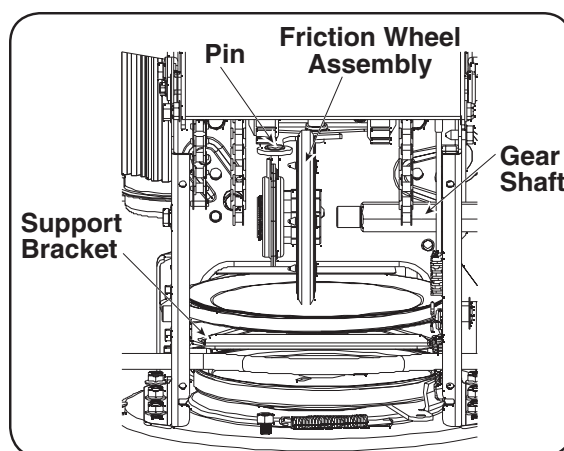

Figure 6-10
4. Move the gear shaft to the right and slide the friction wheel assembly from the shaft. See Figure 6-10.
8. Position the friction wheel assembly up onto the pin of the shift rod assembly, and slide the shaft through the assembly. See Figure 6-10. Reassemble in reverse order.